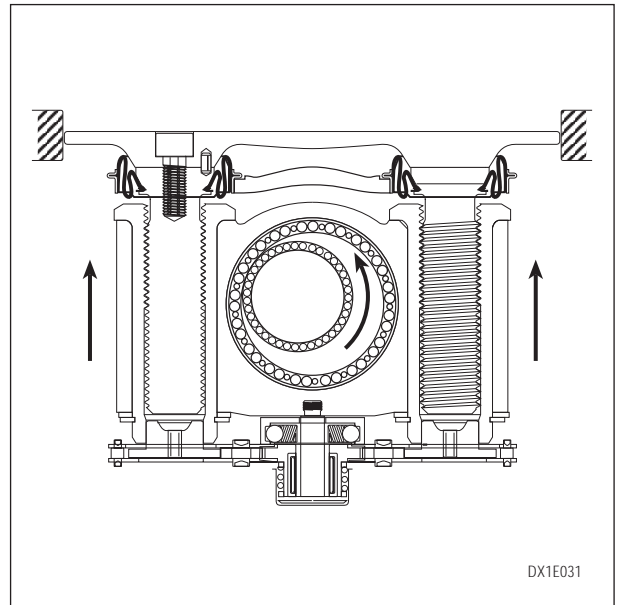

Fig. 2-4 Step 1
- b) Block lifts and begins to move forward, carrying the adjuster sleeves and pistons with it (Fig. 2-4).